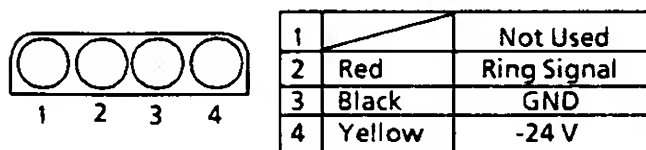

Figure 250-7 Front View of 4 Pin Connector of RSG-E Unit
E. Turn the PSU and the RSG-E ON, then check the AC output voltage, which can be read on the 4 pin connector of the CCU, as shown in Figure 250-7.